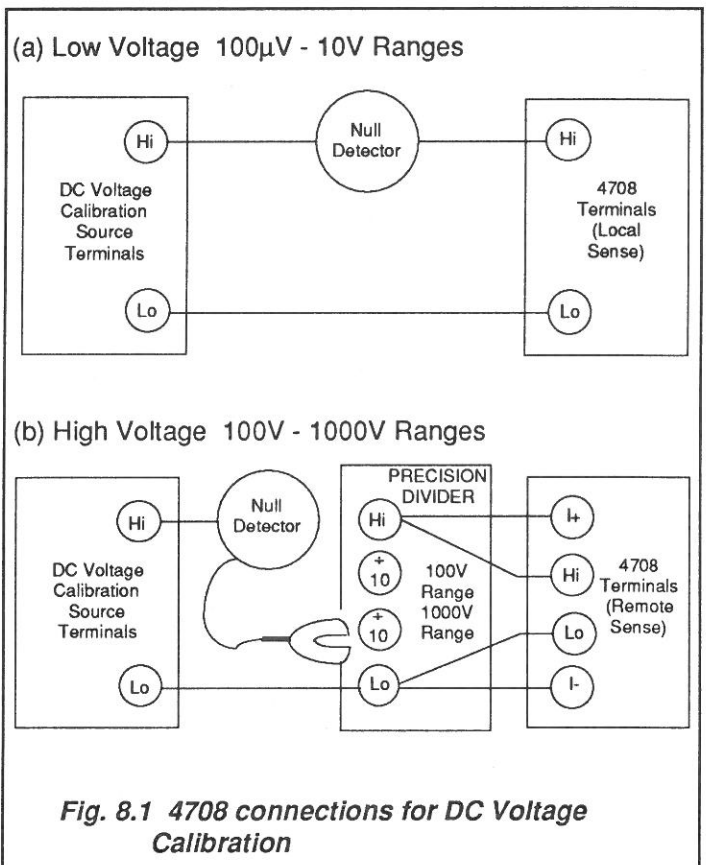

Fig. 8.1 4708 connections for DC Voltage Calibration
Select DC and connect the DC Voltage Calibration Source and Null Detector to the 4708 terminals as shown in Fig. 8.1(a).
Calibrate the DC Voltage ranges in the step sequence of Table 8.2, using the Calibration Routine at each step (except steps 2 and 3). For steps 10 - 13, reconnect as Fig. 8.1(b).
Carry out Step 1 of Table 8.2. Proceed with the desired steps of Table 8.2, using the Calibration Routine at each step (except steps 2 and 3). For steps 10 - 13, reconnect as Fig. 8.1(b).
- C In Table 8.2(a), use interconnections as Fig. 8.1(a) (Low Voltage), obtaining the correct calibration voltage from the source.
In Table 8.2(b), use interconnections as Fig. 8.1(b) (High Voltage) selecting + 10 at steps 10 and 11, + 100 at steps 12 and 13.
(a) Low Voltage – connect as Fig. 8.1(a)
(b) High Voltage – connect as Fig. 8.1(b)